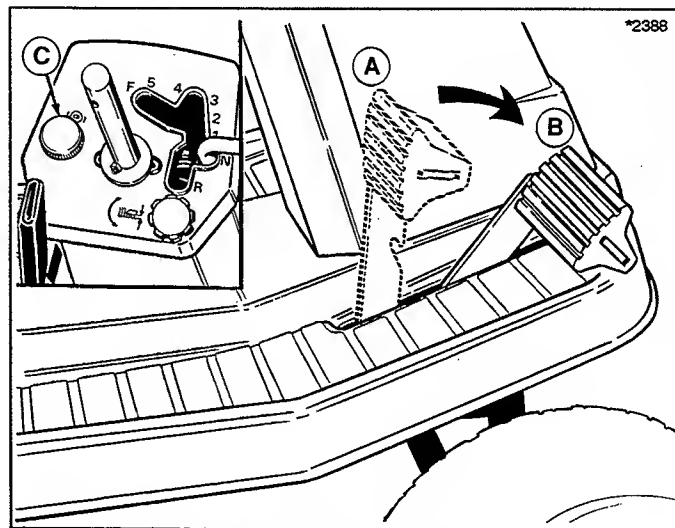

Figure 5. Clutch/Brake/Parking Brake Pedal
12. Before leaving operator's position, set the parking brake and disengage the electric clutch. (The parking brake is shown set in figure 5.) Set the engine speed control to 1/2 throttle. Turn the key to OFF and remove it. Wait for all moving parts to stop.
Refer to figure 5. Depressing pedal from position A to B disengages transmission drive belt and applies the rider brake. Parking brake is applied at position B when parking brake control knob (C) is pulled up with pedal fully depressed.